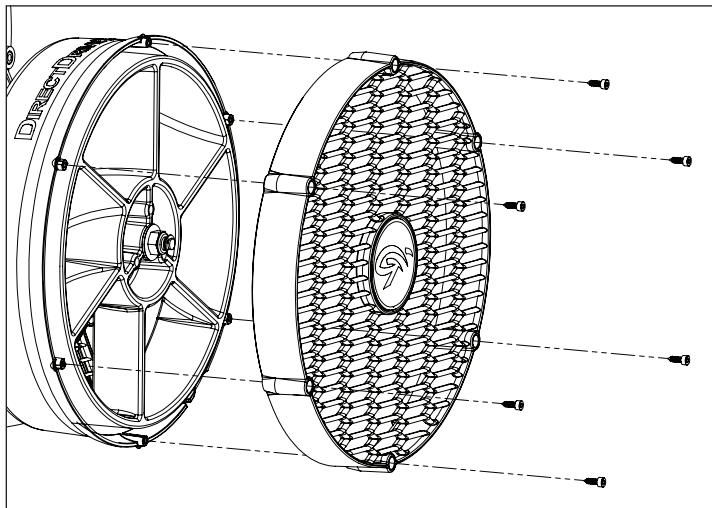

FIGURE 9.1
1. Remove the six socket head screws with a 3mm hex key from the outer fan shroud and remove the fan shroud. (Figure 9.1)